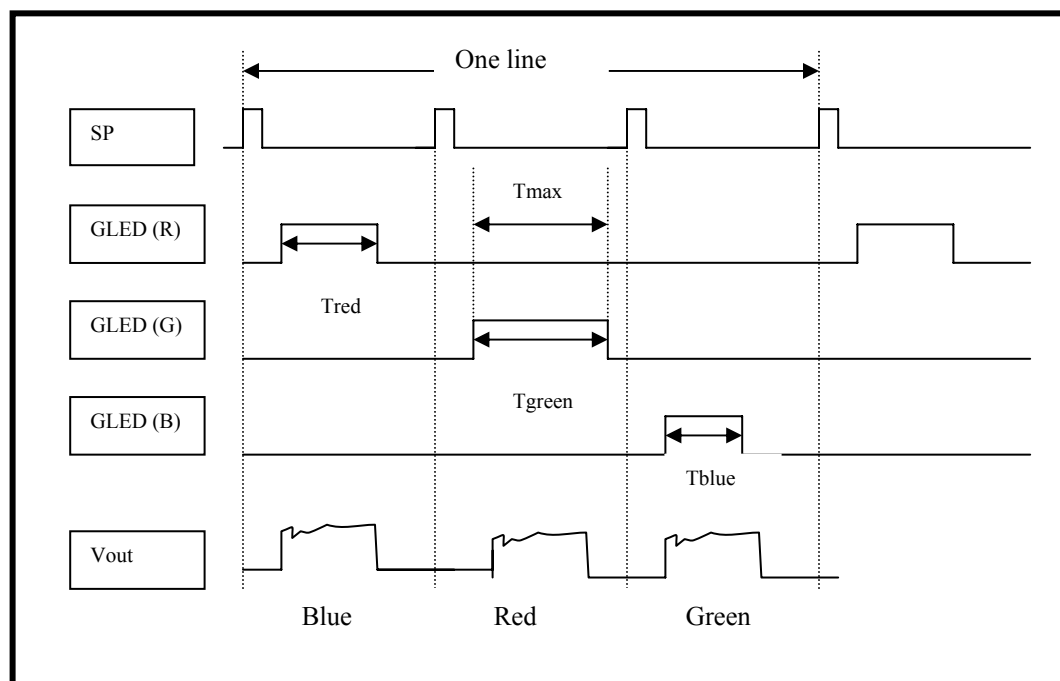

Figure 6. Timing diagram of the CIS module for color mode of operation.
The CIS module used for the color mode of operation is shown in figure 6. In this mode of operation, three LED light sources are pulsed. The following instruction is used to set the output signal level for three different color light source.
- 1.1.5 Reduced the pulse width of other two LED until the output signal is the same as a reference voltage. For example, the green LED pulse is set to T_{max} and the red and blue LED pulse is reduced as shown in figure 6.